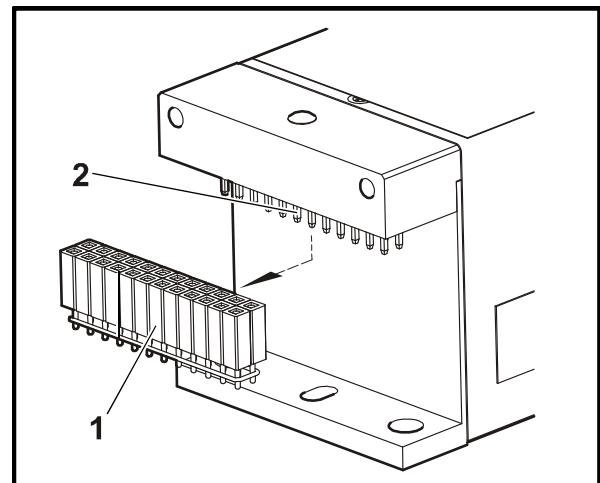

Fig. 22 Preparing the laser module for transportation / storage
- Ship the laser with the connecting cable. If only the laser module has to be shipped plug the transport connector (Fig. 22/1) into the laser connector on the laser module (Fig. 22/2).